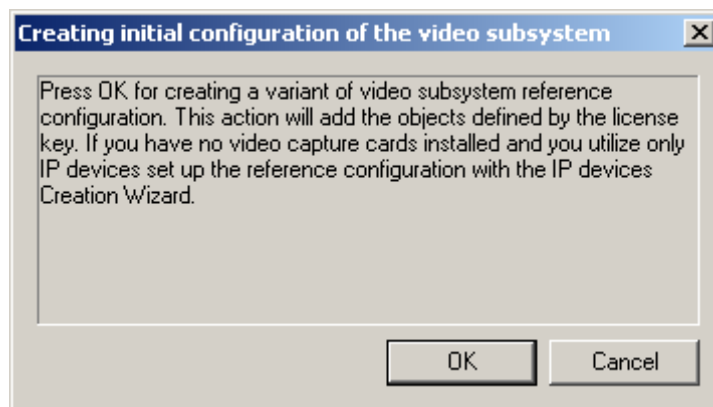

Figure 3.1-19 Initial configuration wizard
The **Creating initial configuration of the video subsystem** window is displayed (Figure 3.1-19).
4. To create initial configuration of the video subsystem, click **OK** (Figure 3.1-19). This action will add objects under Intellect software key.